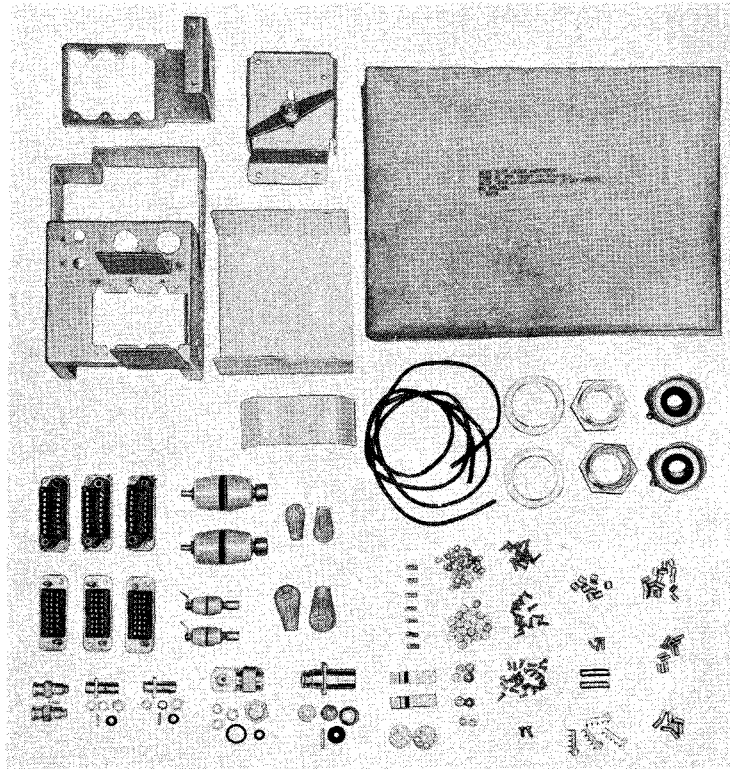

Figure 1-21. Main Test Cable Assembly, AN/SRT-14, 15 and 16
k. SPECIAL TEST EQUIPMENT.—In corrective maintenance, certain conditions may warrant the removal of a unit from its cabinet to be worked on at a bench. To permit the energizing of the unit while on a bench, a patch test cable that will match the connectors of the unit at one end and match the corresponding cabinet connectors at the other end will be needed. This test cable is supplied unassembled and less the wires (figure 1-21). At the time of installation, the installing activity is to supply the wires and assemble the cable. Instructions for the assembly of this test cable are found in Section 3, paragraph 6, of this instruction book.